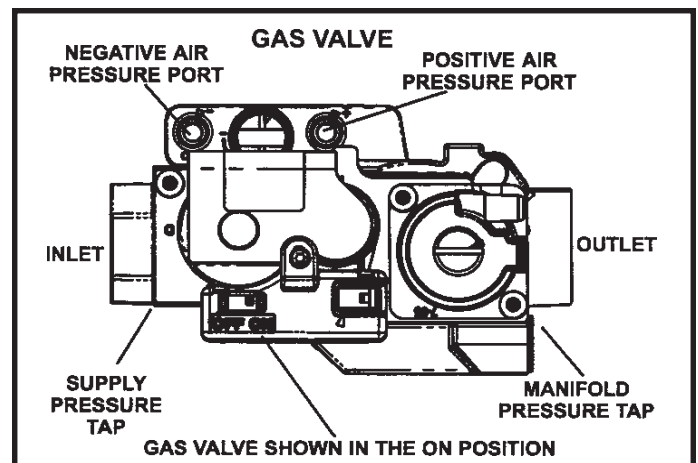

Figure 49
6. Move the gas valve switch to the **OFF** position. See Figure 49.
8. Move gas valve switch to the **ON** position. See Figure 49. **DO NOT** force.